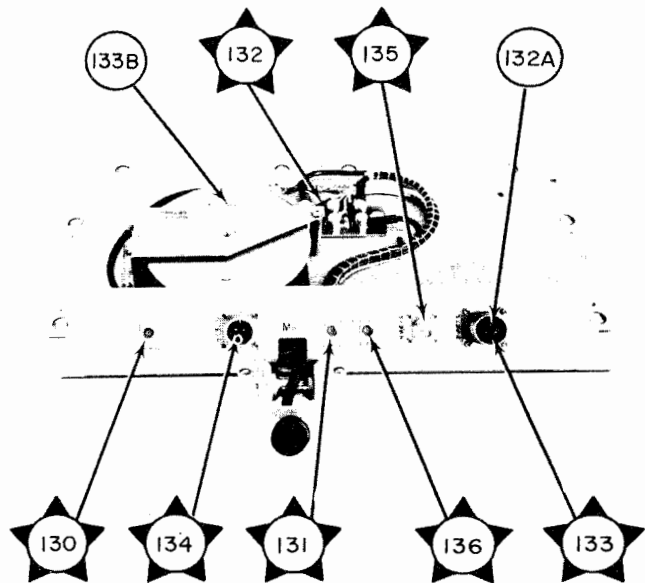

Figure 5-79. Converter Blister, Location of Test Points
- (1) Power connections P955 and J605
- (2) Cable connections on the outside of the blister.
f. CONVERTER BLISTER TROUBLE-SHOOTING CHART.—Table 5-28 is the trouble-shooting chart for the converter blister. Use the lowest resistance range of the multimeter to measure circuit continuity and the highest range to find high-resistance leakage between normally open circuits. Make measurements at patch-cable connector J601 with P951 plugged into blister connector J951. Perform the steps in the order given, compare the results with those in the NORMAL INDICATION column, and follow the instructions given in the NEXT STEP column. Figure 5-79 shows the location of test points.